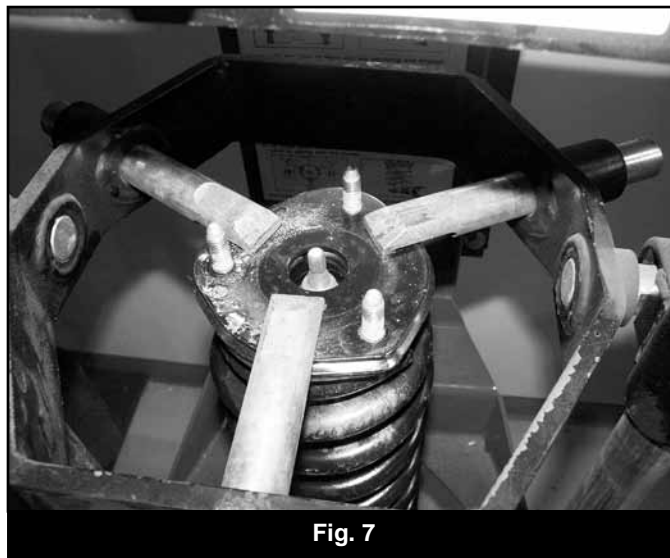

Fig. 7
12. Using an appropriate strut compressor, compress the coil spring and remove the upper strut nut (Fig 7). Remove the strut, strut cap and upper coil seat from the coil spring.